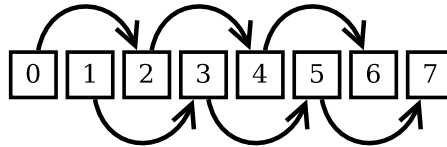

Figure 1.2: Long immediate from previous pair routing.
**Long immediate from neighbor** This is the most common route, as it is supported in all  $\rho$ -VEX configurations. This allows all pipelines to forward a long immediate to their immediate neighbor within a pair of pipelines. This is depicted in Figure 1.2 for an 8-way  $\rho$ -VEX processor.
**Long immediate from previous pair** This provides an alternative place where a long immediate can be placed for lanes 2 and up; when this route is enabled lane  $n$  can send a long immediate to lane  $n + 2$ . This is depicted in Figure 1.2 for an 8-way  $\rho$ -VEX processor. However, due to limitations in the instruction fetch unit, this system is incompatible with the stop bit system. For these reasons, it can only be effectively used in cores with at least four lanes that are not configured to support stop bits.